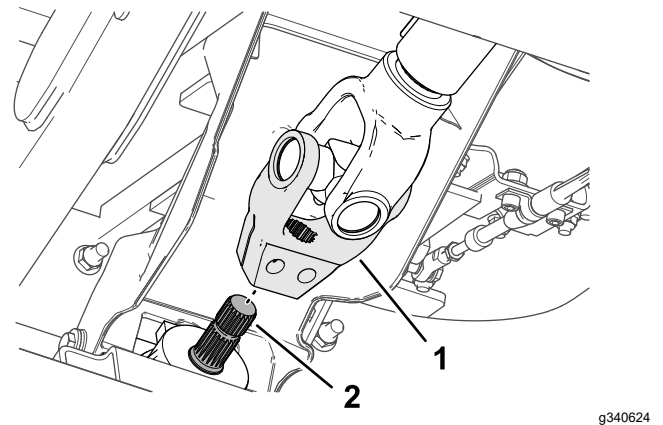

Figure 15
5. Align the splines in the driveshaft yoke onto the splines of the attachment input shaft (Figure 15), and slide the yoke over the shaft.